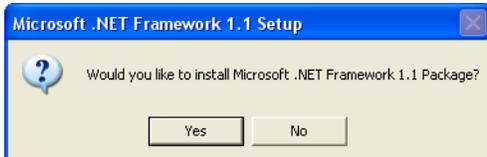

Figure 6: Microsoft .NET Installation Confirmation
3. Double-click on the  link. A confirmation window appears asking if the Microsoft .NET Framework package should be installed (see Figure 6).
3. Double-click on the  Setup.Exe link. (see Figure 6). The Welcome to the DeviceInstaller Setup Wizard window appears (see Figure 12 on page 11).